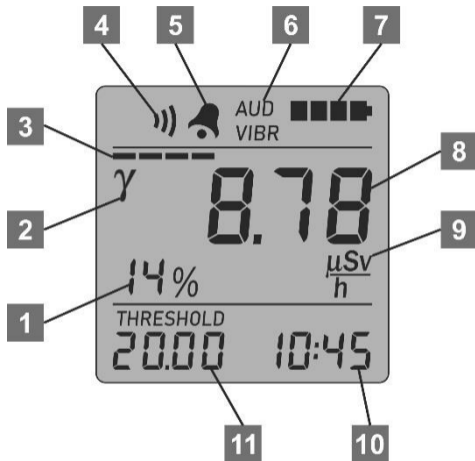

Figure 3 – LCD of the dosimeter
The dosimeter provides the option to choose between three alarm types: audio, vibration and vibration-audio. Irrespective of the operating mode of the dosimeter a short press of the two buttons at a time (MODE and THRESHOLD) changes the alarm type and activates it for a short time. The alarm type is displayed on the LCD with “AUD” and/or “VIBR” symbols (6) (Figure 3).
Irrespective of the chosen operating mode, the dosimeter carries out a non-stop control of batteries status. The control results are displayed on the LCD with a battery status symbol (7) (Figure 3), which consists of four segments. The number of blinking segments shows the level of batteries discharge. Blinking of three or four segments is accompanied by short audio and/or vibration signals. This means that the batteries should be replaced.
In this mode the dosimeter’s LCD displays the following information (Figure 3):
If the DER measurement results exceed the alarm threshold level (11), the dosimeter sends a two-tone audio signal and/or an intermittent vibration signal, which depends on the chosen alarm type. Measurement results start blinking on the LCD of the dosimeter. Periodic and gradual (from left to right) highlighting of the sound symbol segments (4) serves as an indication of the threshold level exceeding as well (Figure 3).